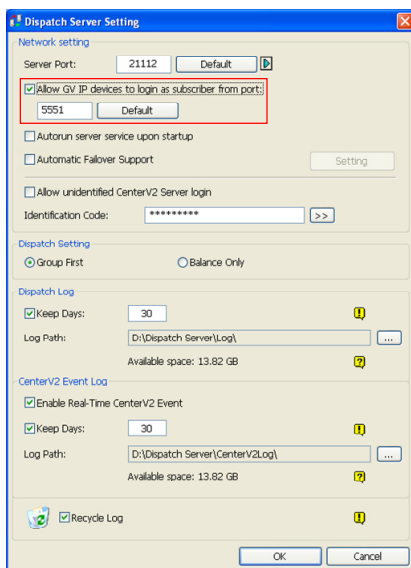

Figure 2-7
- Port Number:** Match this port to the port value in step 2 (Figure 2-7) to connect to the Dispatch Server.
- **Server Port:** The port should match with the Dispatch Server Port of Center V2 (Figure 2-7). Or, keep the port setting as default.